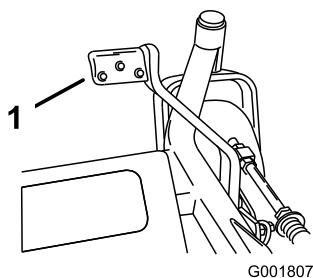

Figure 22
2. Press on the lift assist lever while pulling up on the height-of-cut lever (Figure 22).